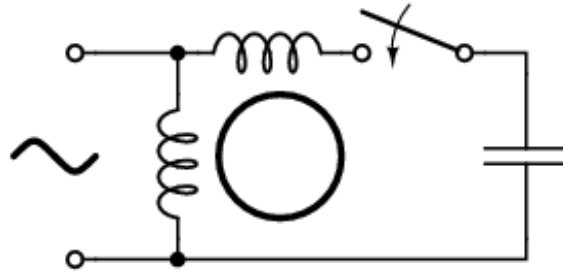

Figure 5: Capacitor start induction motor
- *Capacitor-start motors* are similar to split phase motors. The main difference is that a capacitor is placed in series with the auxiliary winding, Figure 5. This type of motor produces greater locked rotor and accelerating torque per ampere than does the split phase motor. Sizes range from fractional to 10 hp at 900 to 3600 rpm.